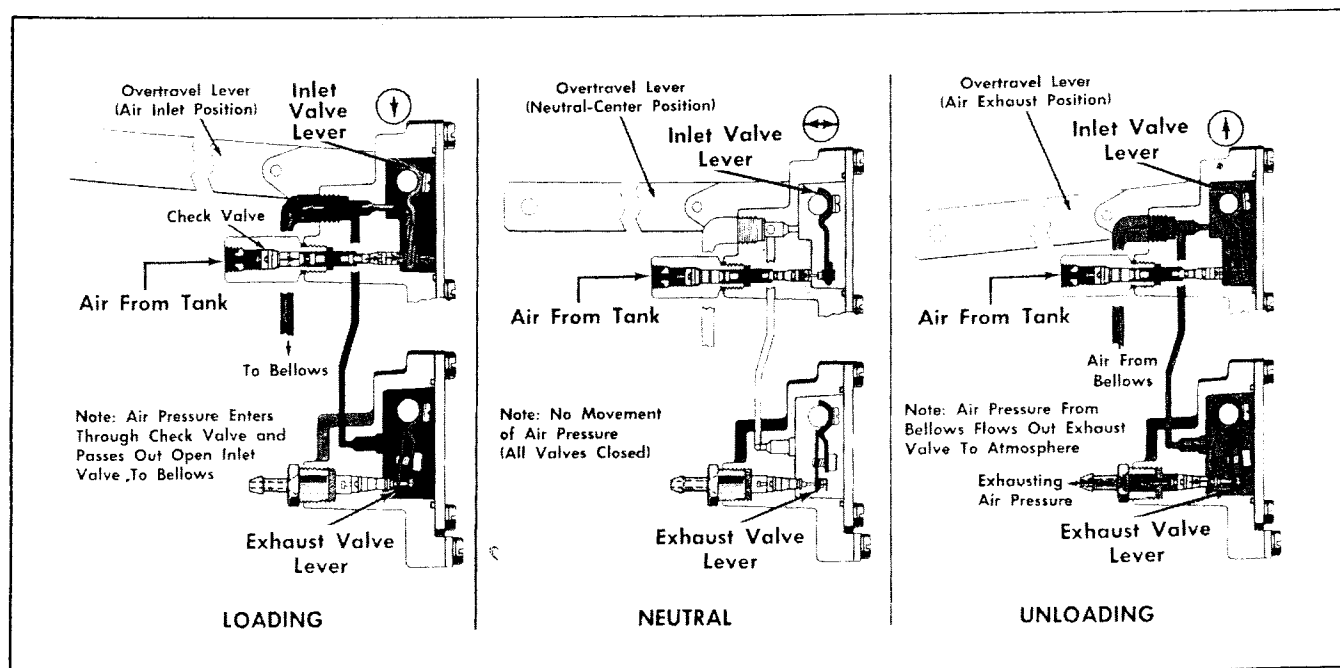

Figure 12-7: Height Control Valve Operation
The operation of the height control valves and the general design is shown in Figure 12-7.
- (1) Clean the exterior of valve assembly.
- (2) Connect air pressure line to air inlet port, then open the air pressure (70-100 psi.)
- (3) Dip the valve assembly in a container of water, and watch for air bubbles when the overtravel lever is in the center position. Refer to Figure 12-7: No air should escape from any point of the valve assembly.
- (4) If bubbles appear from the bellows port, this is an indication that the air inlet valve assembly is defective and must be replaced.
- (5) Remove air pressure line from air inlet fitting and connect it to the bellows port. If bubbles appear at the air inlet check valve port, this is an indication that check valve unit is defective and must be replaced.
- (6) If bubbles appear at the exhaust port, it is an indication that the exhaust valve assembly is defective and must be replaced.
- (7) If bubbles appear around edge of valve cover plate, the cover plate gasket should be replaced.
- (8) If no leaks are found, remove valve assembly from the water, then with air pressure still connected to the bellows port, actuate overtravel lever to remove any excessive amount of water which may have entered exhaust valve chamber. Remove air line and connect it to the air inlet port and repeat operation here to remove water from the air inlet valve chamber.